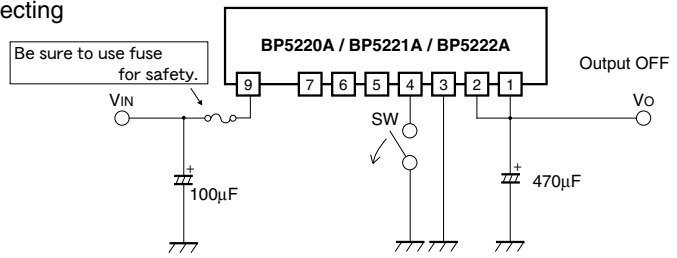

Fig.3
- (2) Switching on and off the output voltage is allowed. The output can be switched off by making pin 4 to be open (high impedance). (See Fig.3)
- (3) Fine adjustment of the output voltage is allowed. The fine adjustment of output voltage can be performed from pin 6 via the resistor by connecting the output terminal (pin 2) or GND. (See application example3)